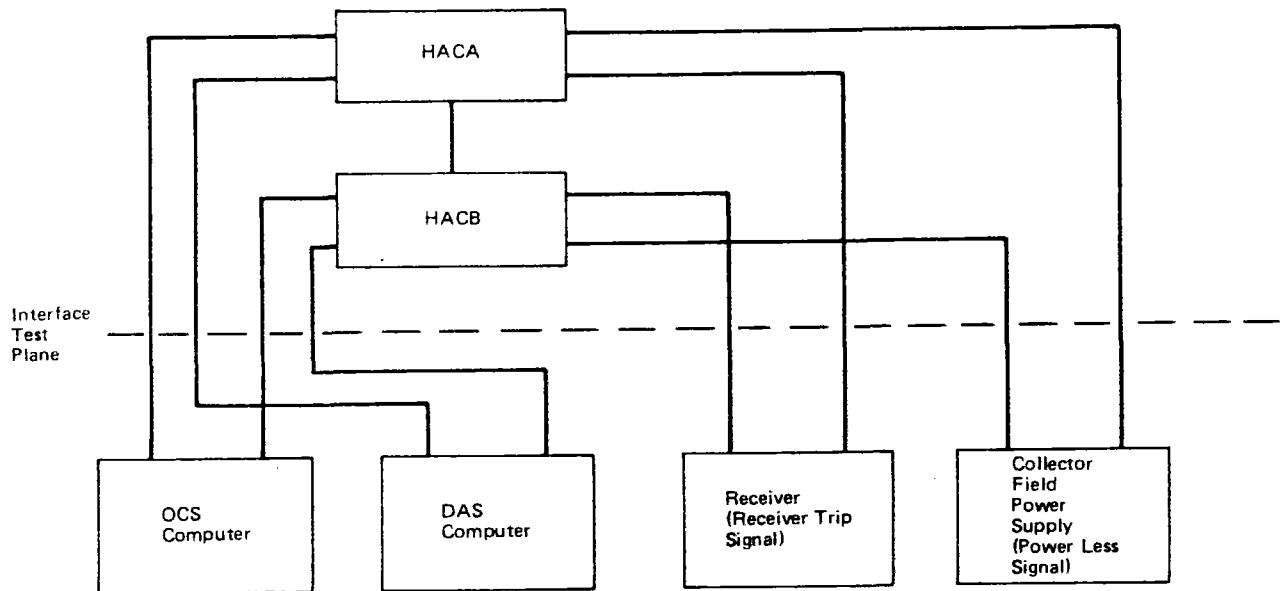

Figure 1. Test 360
This test addresses startup of the heliostat array controller (HAC) as it interfaces with other plant equipment external to the Collector System (CS), including the Operation Control System (OCS), the Data Acquisition System (DAS), the Receiver System (RS) and the Collector Field Power Supply. Figure 1 illustrates the essence of this test. This test is structured to test interfaces only. The systems are tested in other tests as follows: 100-CS, 000-RS, 305-DAS, 340-OCS and 820-Collector Field Power Supply. Test 360 is organized into four subtests one for each CS interface.